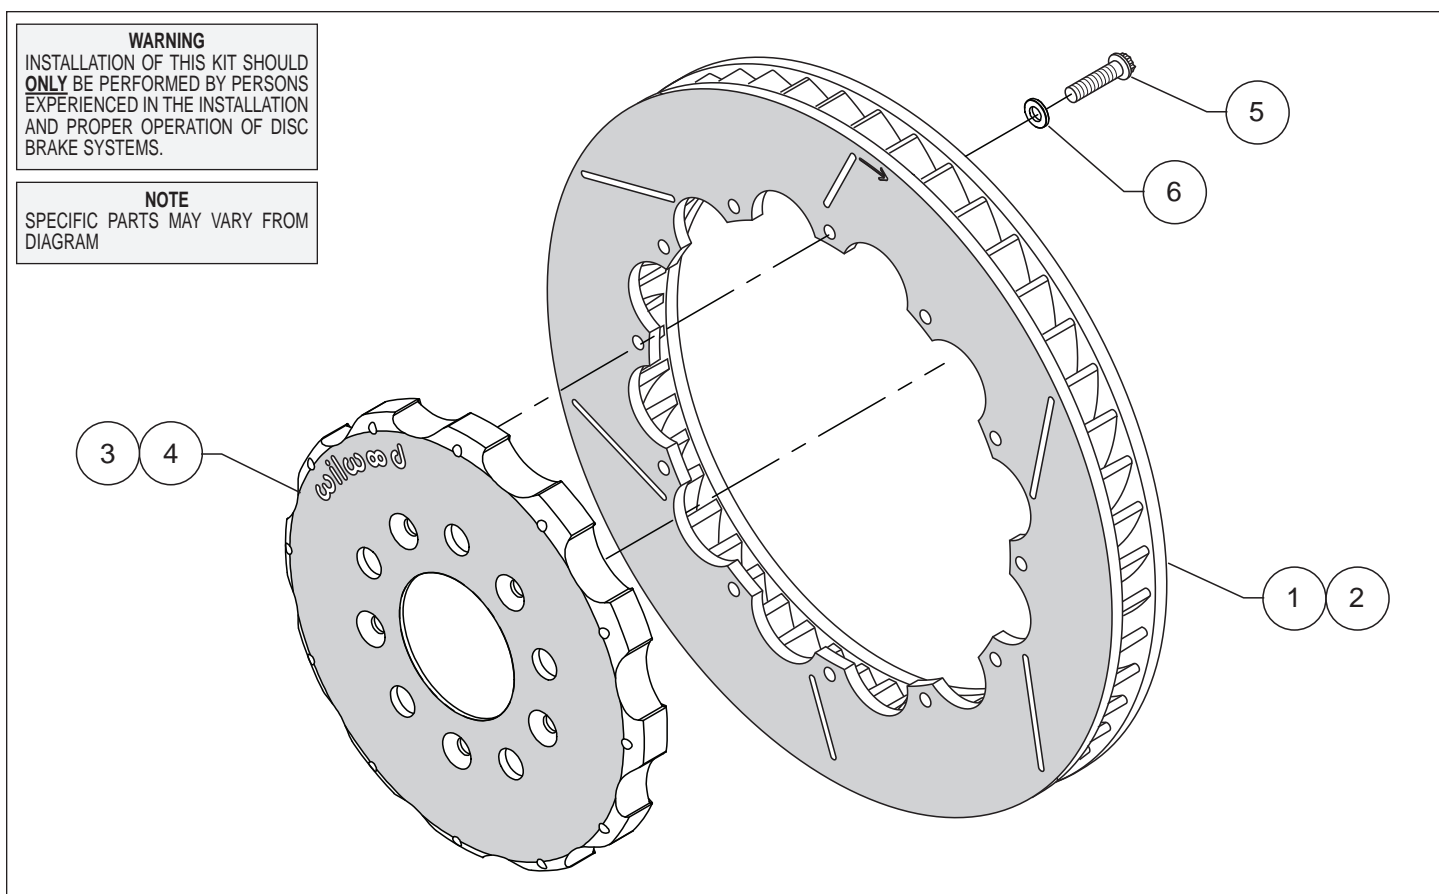
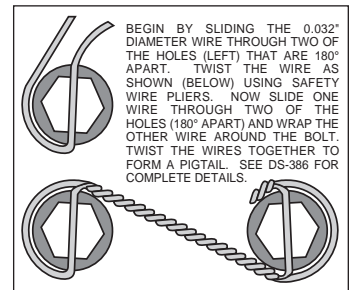

Figure 1. Typical Installation Configuration
Figure 2. Safety Wire Diagram
- Orient the rotor (1/2) and the hat (3/4) as shown in Figure 1 and Photo 1. Attach rotor to hat using bolts (5) and washers (6). Using an alternating sequence, apply red *Loctite*® 271 to the threads and torque bolts to 155 **in-lbs**. For an added measure of security, the bolts may be safety wired using standard 0.032 inch diameter stainless steel safety wire as shown in Figure 2. Please refer to Wilwood's data sheet DS-386 (available at www.wilwood.com/Pdf/DataSheets/ds386.pdf) for complete safety wire installation instructions.